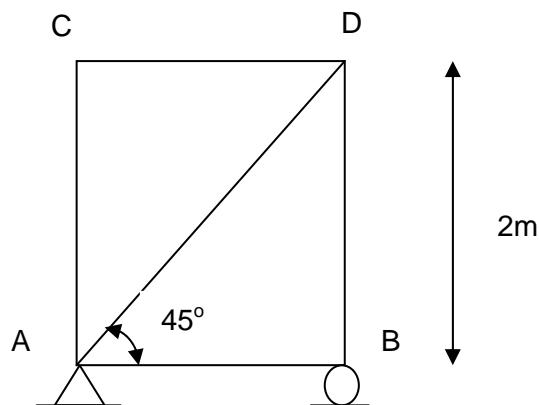

Figure 6(b)/Rajah 6(b)
- (b) If a part of a typical steel truss AD shown in **Figure 6(b)** is subjected to an axial force of 15kN, what is the value of linear deformation (dL) that can occur in such a member assuming the value of area of section is 250mm^2 and Elastic Modulus is 200 kN/mm^2 .